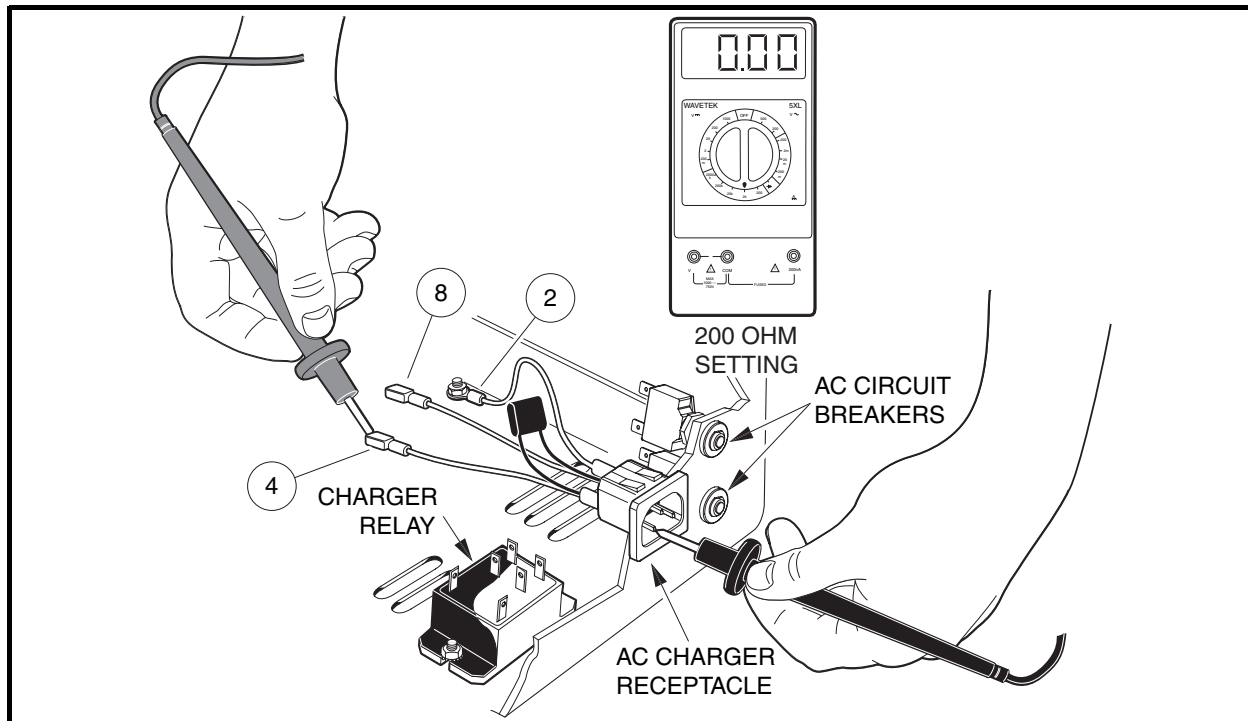

Figure 5-18 AC Charger Receptacle Continuity Test
2. Disconnect black wire from charger relay terminal 4 (4) (**Figure 5-18, Page 5-24 and Figure 5-6, Page 5-9**).
3. Disconnect green/yellow wire (2) from charger case and position it so it does not touch any metal part of the charger (**Figure 5-18, Page 5-24**).
4. Using a multimeter, set for 200 ohms, place the red (+) probe on the terminal at the end of the black wire removed from relay terminal 4 (4) (**Figure 5-18, Page 5-24**). Test for continuity on the appropriate pin of the AC charger receptacle (on front of charger). The tester should indicate continuity on the ground pin only. If any other reading is obtained, the AC charger receptacle or connecting wires have failed and must be replaced.
5. Put the red (+) probe on the end of the green/yellow wire (2) and with the black (–) probe check for continuity on the appropriate pin of the AC charger receptacle (**Figure 5-18, Page 5-24 and Figure 5-6, Page 5-9**). The tester should indicate continuity on the ground pin only. If any other reading is obtained, the AC charger receptacle or connecting wires have failed and must be replaced.
6. Disconnect black wire from charger relay terminal 8 (8) (**Figure 5-18, Page 5-24**). Put the red (+) probe on the black wire (8) and check for continuity on the appropriate pin of the AC charger receptacle. The tester should indicate continuity on the ground pin only. If any other reading is obtained, the AC charger receptacle or connecting wires have failed and must be replaced.